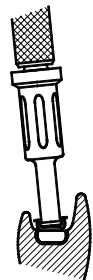

Fig. 9
8. Use the LOCATOR Male Removal Tool (attached to the Locator Core Tool, Zest order #8393) to remove the Black Processing Male from the metal denture cap. The sharp circular edge on the end of the removal tool should be wedged tightly down into the very bottom of the plastic male so that it will catch the inside of the black plastic insert to pull it at an angle out of the metal housing. (Fig. 9) To discard the nylon male from the new tip on the Core Tool, point the tool down and away from you and tighten the new Male Removal Tool clockwise back onto the Core Tool. This will activate the removal pin and dislodge the nylon male from the tip end of the Male Removal Tool.